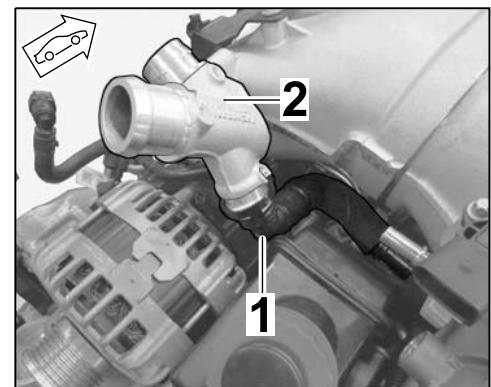

Figure 17
- 2.5.4 Connect new crankcase vent line to the ventilation adapter (cylinders 1-3) (⇒ Figure 17).